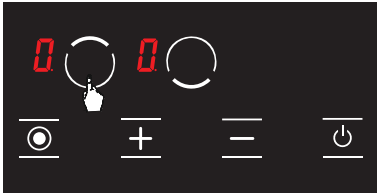

Figure 15
2. Press the upper hob selection key () again. (See Fig. 15)